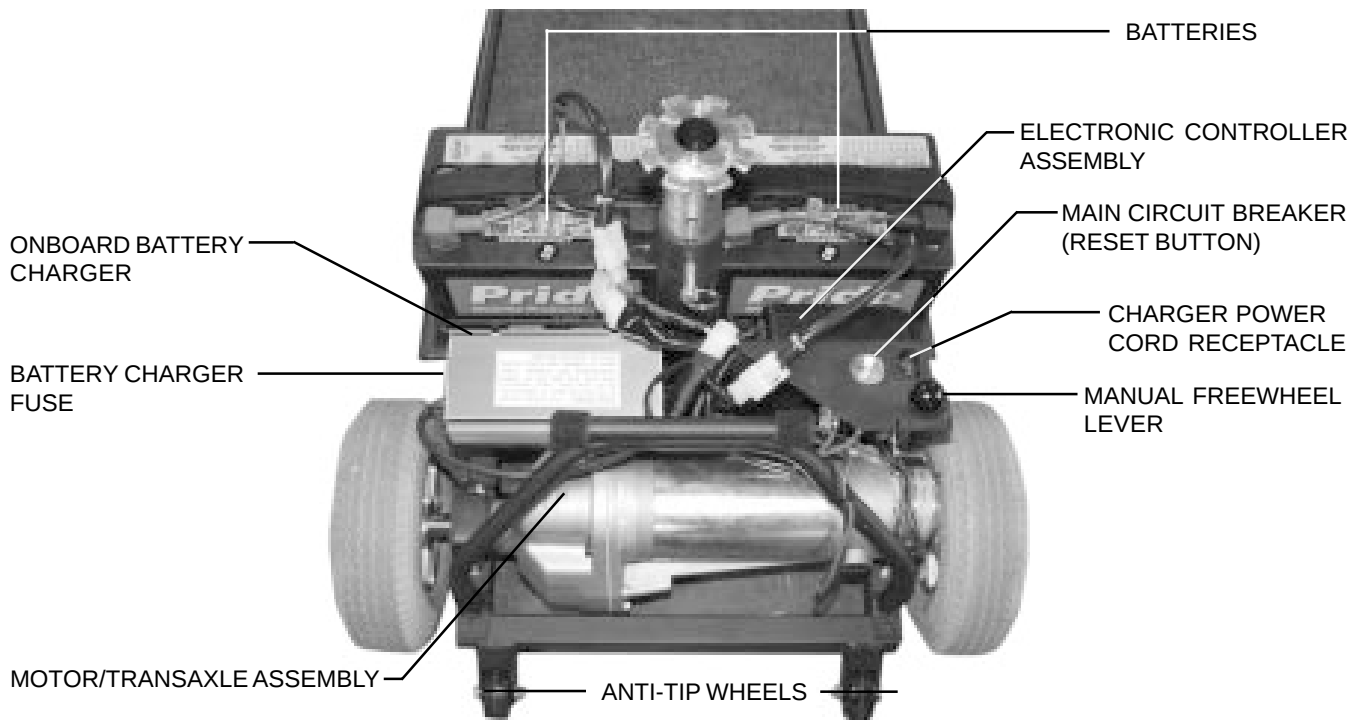

Figure 7. Rear Section
The onboard battery charger, the charger power cord receptacle, the battery charger fuse, the batteries, the electronic controller assembly, the main circuit breaker, the manual freewheel lever, and the motor/transaxle assembly are located on the rear section of your scooter. See IX. “Disassembly and Assembly” for instructions on removing the rear shroud. The anti-tip wheels are at the rearmost part of your scooter. See figure 7.
- The charger power cord plugs into the battery charger by means of a receptacle located on the rear section of your scooter, near the manual freewheel lever and the main circuit breaker reset button. See figure 7.
- The main circuit breaker is mounted on the rear section of the scooter, near the manual freewheel lever. See figure 7.
- The manual freewheel lever is located on the end of the motor/transaxle assembly at the left rear of the scooter, and extends through the rear shroud. See figure 7.
The motor/transaxle assembly consists of a geared transmission and differential. This one piece, direct drive, fully sealed assembly provides quiet operation with maximum power and long life. See figure 7.